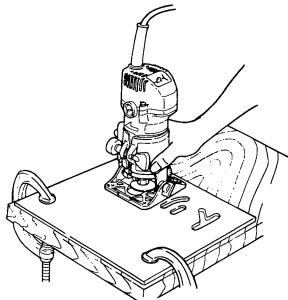

Fig. 13
- (4) Install the base ass'y in the main unit. (Fig. 13)
- (5) Securely fix the template to the workpiece. Feed the trimmer following the template. (Fig. 13)